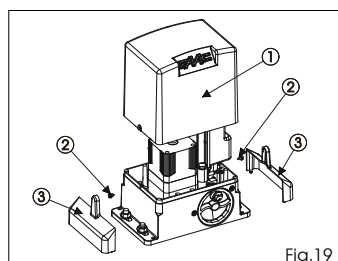

Fig.19
Move the board support back to its original position. Position the protective casings (Fig.19 ref.1), tighten the two side screws supplied (Fig.19 ref.2) and insert, under pressure, the supporting side pieces (Fig.19 ref. 3).